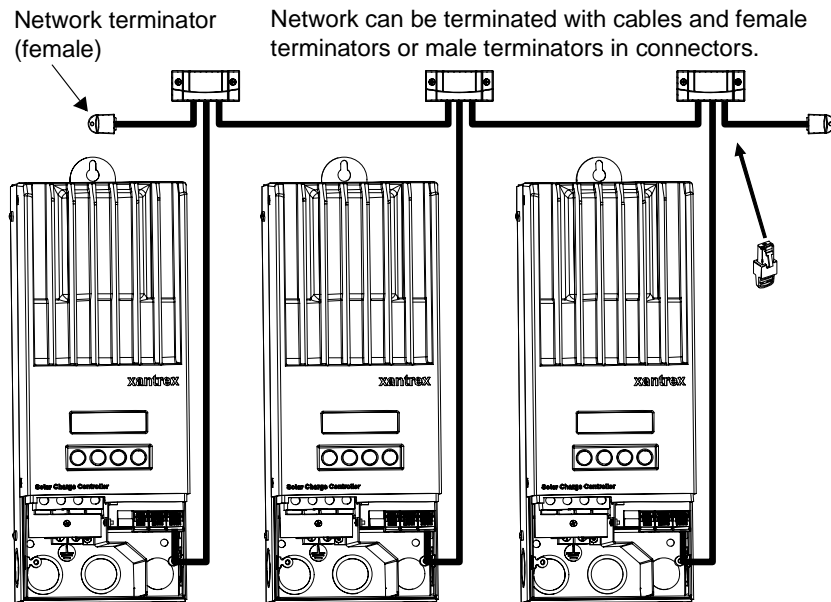

Figure 2-13 Multi-Drop Backbone Layout
In a multi-drop backbone layout, each Xanbus-enabled device on the network is connected by a drop cable to the network bus or backbone with a network connector, as shown in Figure 2-13.
Network terminators are required at both ends of the multi-drop backbone cable, as shown in Figure 2-13. Therefore, the Xanbus-enabled devices do not require their own termination.
If cables are placed at the end of the network, female terminators are required. Otherwise, male terminators can be inserted directly into the open jack of each network connector at the end of the network. See Figure 2-13.
5. Connect each network connector with a network cable as shown in Figure 2-13.